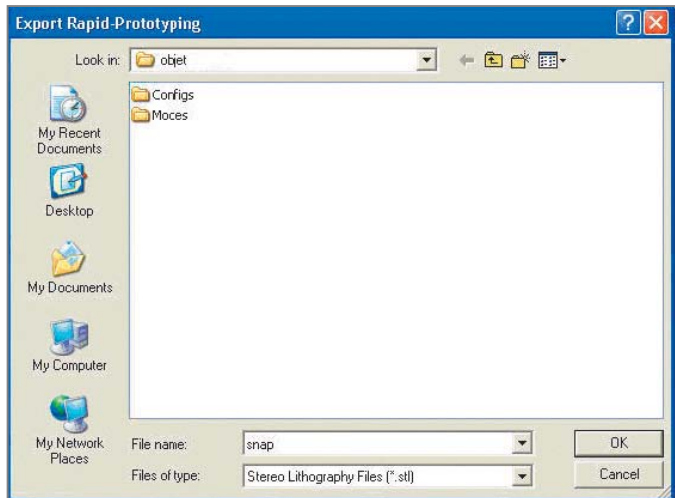

Figure 37. *Export Rapid-Prototyping* dialog box
6. In the *Export Rapid Prototyping* dialog box, enter the file name and click **OK** (Figure 37).